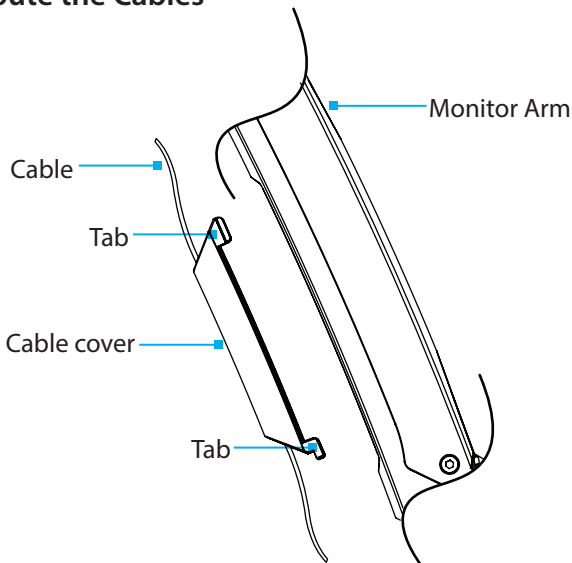

Figure 23
3. Route the **Cables** along the inside of the **Cable Cover**. (Figure 23)